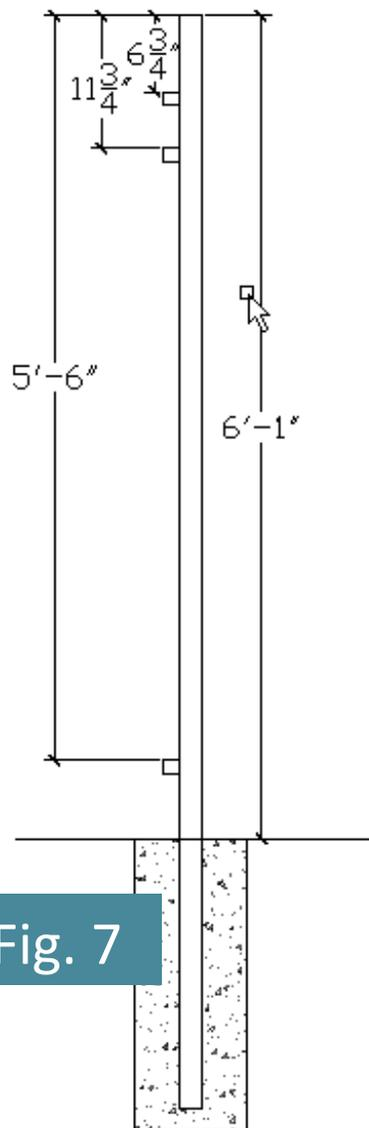

Fig. 7
1. For Spear Top and Extended Picket, attach the top bracket 6 3/4" below the top. Attach the mid rail bracket 11 3/4" below top of post. The bottom rails is attached 66" below top of post (see Fig. 7).